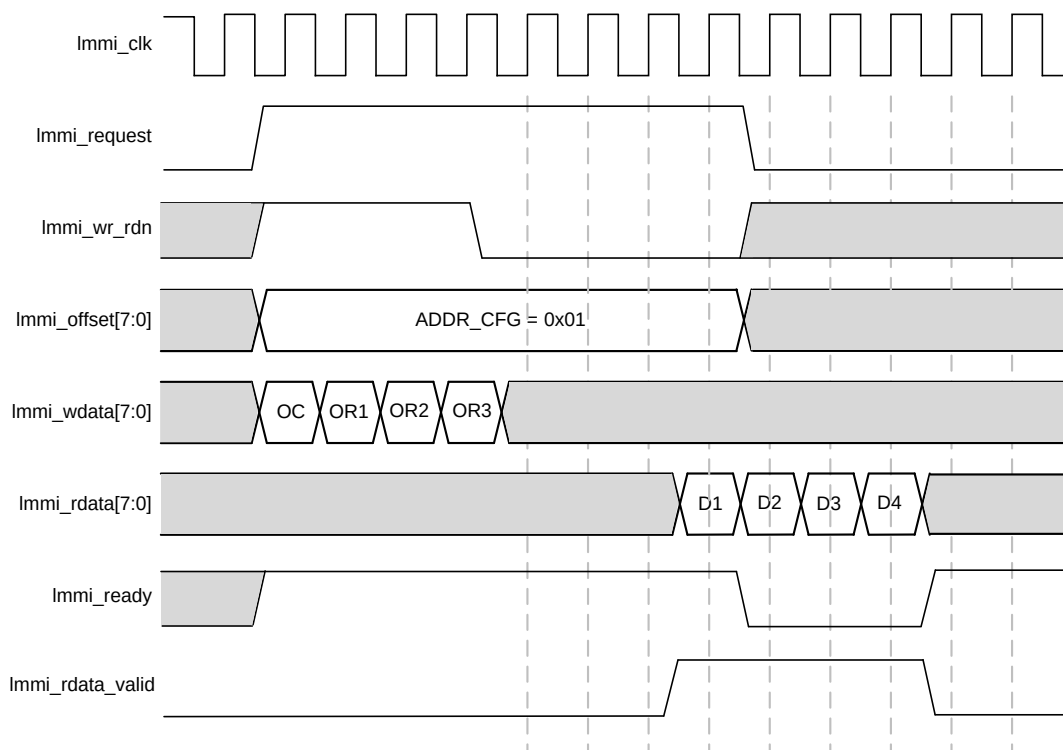
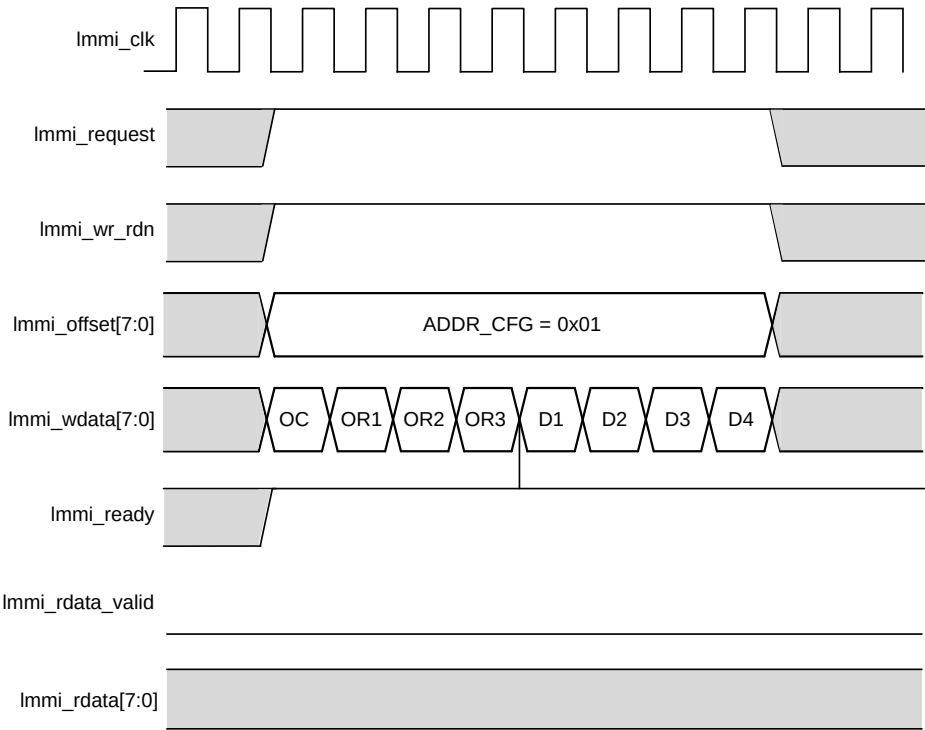
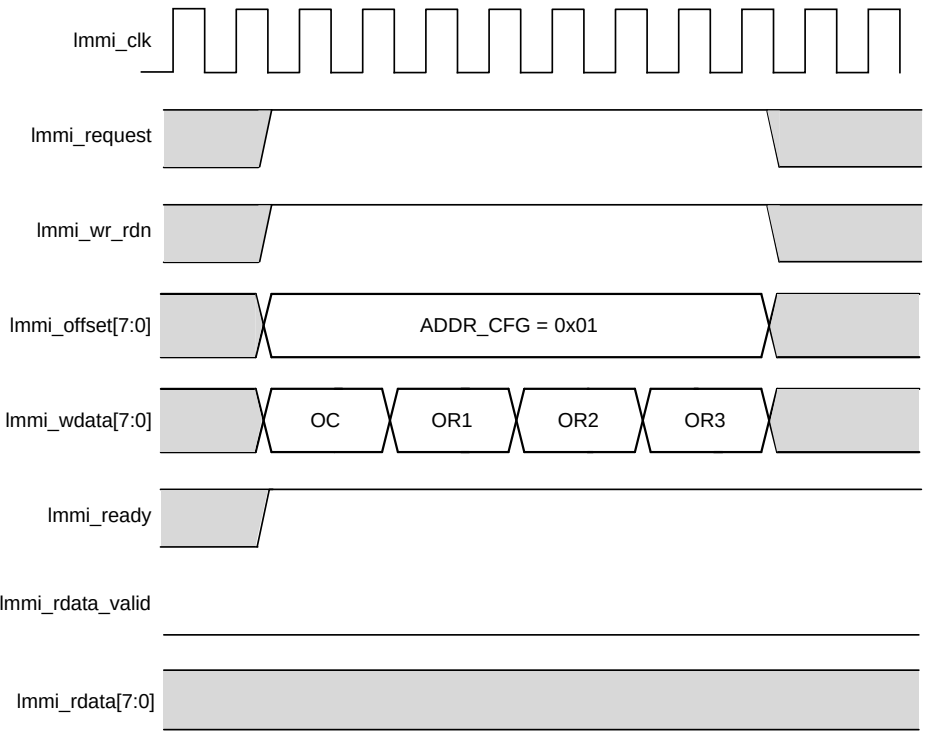

Figure D.3. LMMI Class A Commands Execution
Figure D.4. LMMI Class B Commands Execution
Figure D.5. LMMI Class C Commands Execution
The CONFIG_LMMI(A/B) primitive has a hardware assigned `Immi_offset` with `ADDR_CFG=0x01`. To execute slave configuration command, LMMI host should perform four back-to-back write transfers: 1 byte Opcode (OC), 3 bytes Operands, which are `OPERAND1 – OPERAND3 (OR1 –OR3)`, followed by the optional data bytes. The Class A command, Class B command, and Class C command execution are demonstrated in Figure D.3, Figure D.4, and Figure D.5.